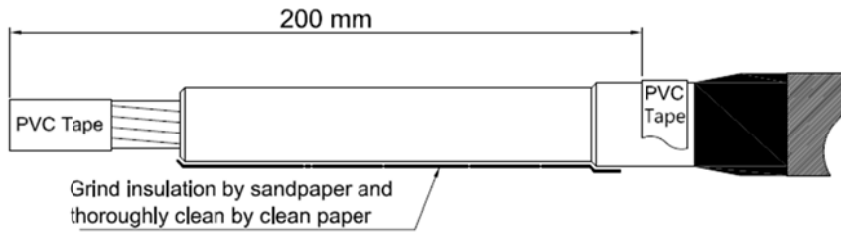

Fig. 8
Step 8. Wrap PVC tape to mark adapter install location in 200mm from the end of cable as Fig. 8. Wrap PVC tape on conductor. Grind insulation by sandpaper and thoroughly clean by clean paper.